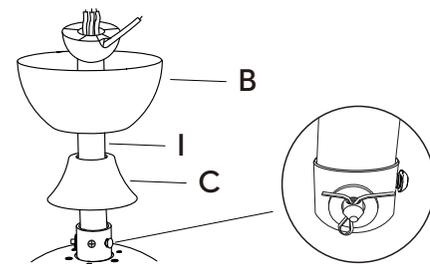

Figure 5
- Loosen the screws first and then insert the downrod assembly (I) into the hanger at the top of the fan motor assembly.
- Push the pivot pin through the hanger and downrod holes (Figure 5). Pivot pin's insert end is a specially-designed cone shape that pushes away and won't harm the wires inside the downrod. Secure the pivot pin by inserting the split pin and bending the ends to prevent it from falling out of the holes (Figure 5).
- Secure the hanger and downrod by tightening the screws pre-installed on the hanger (Figure 5).